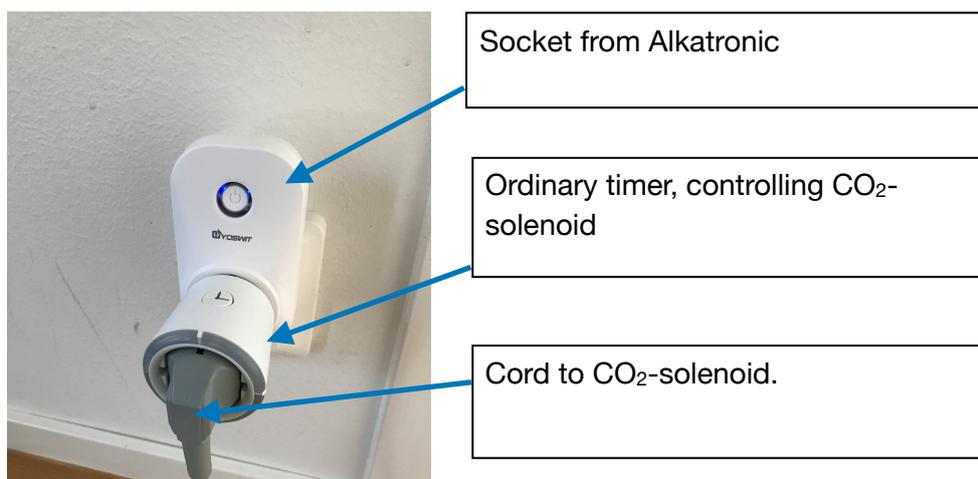

Figure 5
- 2) Plug the timer that controls the CO₂-solenoid into the Alkatronic socket. See Figure 5.
Now, as long as the Alkatronic socket is "open", which is indicated by a red light on the socket, the Alkatronic socket gives power to your ordinary timer that controls the solenoid to the CO₂-supply. Only when a measured dKH is above your settled high reference value (and *action mode* is enabled), will the Alkatronic plug shut off, and thus shut off the CO₂, independently of what your ordinary timer wants to do. See figure 5.